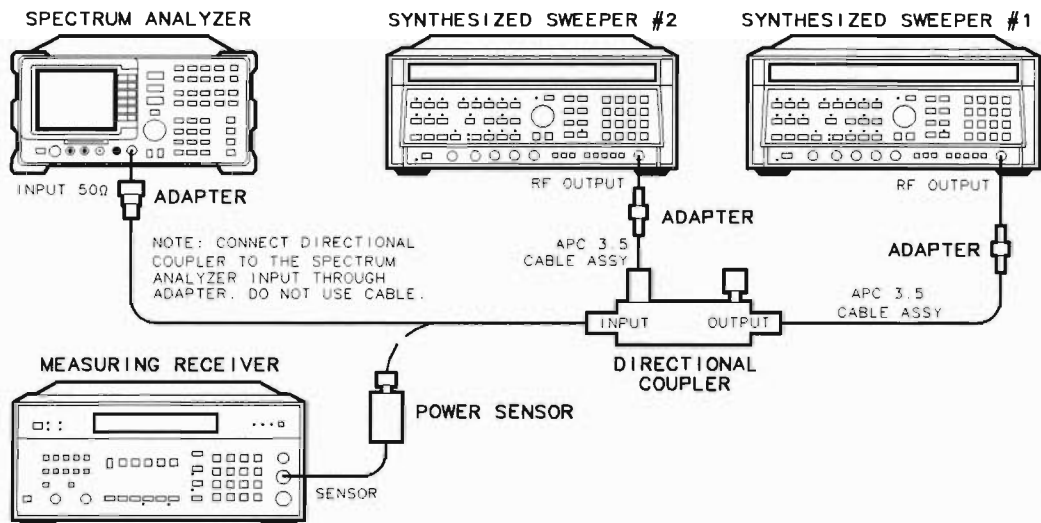

Figure 2-47. Third-Order Intermodulation Distortion Test Setup
35. Connect the equipment as shown in Figure 2-47 with the input of the directional coupler connected to the power sensor.